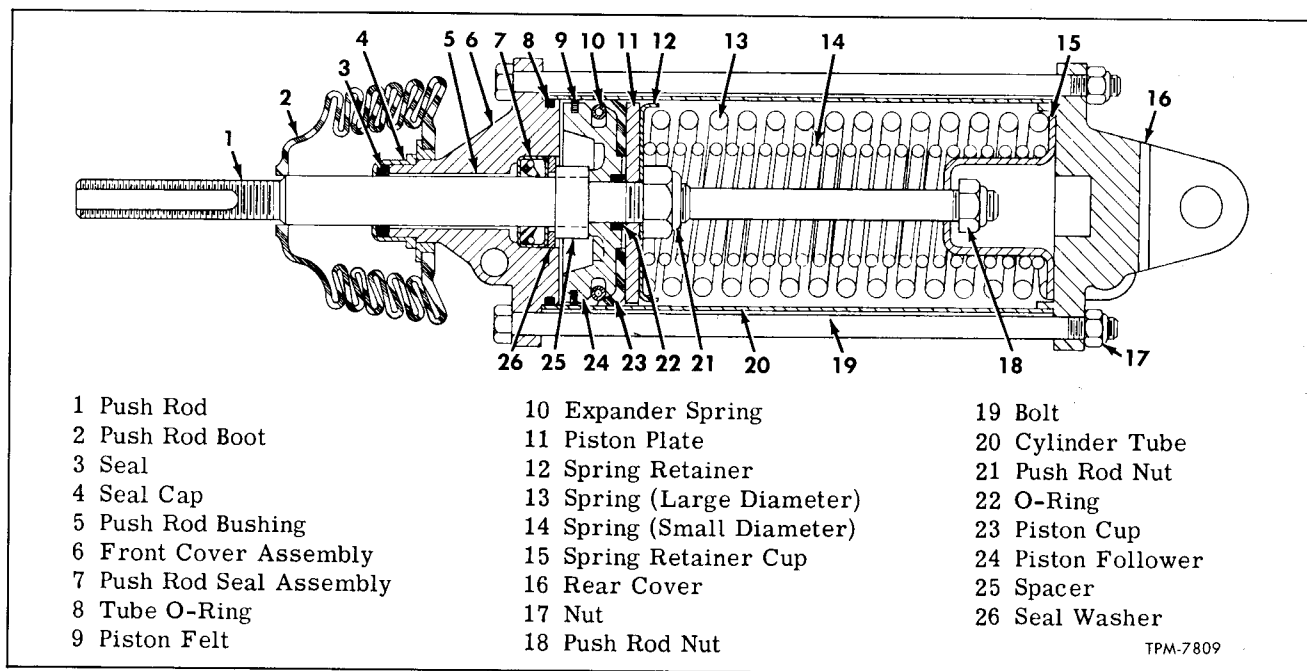

Figure 65—Clutch Control Air Cylinder Assembly
Clutch control air cylinder (fig. 65), pivot-mounted to side of compressor, is employed to engage and disengage the compressor clutch. When cylinder push rod is retracted by air pressure supplied by the control air solenoid valve, clutch becomes engaged. When solenoid valve closes, exhausting air supply to cylinder, springs within cylinder extend the push rod to cause clutch to become disengaged.
Key numbers in text refer to figure 65.
Key numbers in text refer to figure 65. Refer to this view for positioning of parts when assembling unit.
1. Install new seal assembly (7) into front cover (6). IMPORTANT: Lip of seal must face piston components.) Install seal washer (26). Stake washer in four places.
2. Slide small diameter end of push rod (1) into boot end of front cover (6) and through seal.
3. Place spacer (25) into position on push rod.
4. Place piston follower (24) on push rod, then install small O-ring (22) into recess of follower.
5. Referring to figure 65 for proper positioning of parts, install piston felt (9) and expander spring (10) into grooves of follower (24), install piston cup (23), piston plate (11), spring retainer (12) and new push rod nut (25). Tighten nut firmly.
6. Place push rod and front cover in arbor press fixture, then place springs (13 and 14) into position. Carefully press spring retainer cup (15) over end of push rod to allow installation of new push rod nut (18). Tighten nut firmly.
7. Locate tube O-ring (8) into groove of front cover.
8. Coat inside of cylinder tube (20) with Lubriplate, then place tube over springs to front cover. Locate rear cover (16) to tube. Align marks on tube and covers which were made prior to disassembly. Install four bolts (19) and nuts (17). Tighten nuts evenly.
9. If previously removed, install seal (3) and